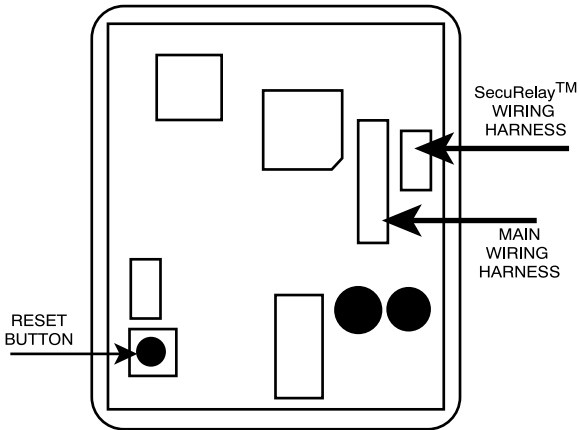

FIGURE 1
When received, the correct system code may already be set. Should it become necessary to reset the system code, remove the unit from the wall to gain access to the reset button (see figure 1). Momentarily depress the reset button. The LED indicator will flash red and green alternately (If at power up, the LED is already flashing red/green, it is not necessary to remove the unit from the wall and press the reset button). While the LED indicator is flashing, place either a programming card or an access card with the proper system code onto the touch plate and remove it. The **ENTRACOMP® 26SA** will “remember” the system code and retain it until reprogrammed. If the reset button is pushed, but no card is placed on the **TOUCH CARD®** reader plate before the LED indicator times out, the system code will be unchanged. **Wait for the LED indicator to time out before programming the unit.**
The **ENTRACOMP® 26SA** is provided with a connector and 10 wire leads (see figure 1). Using appropriate wire nuts or crimp on connectors, wire the unit as per the table below. Be sure unused wires are insulated to avoid shorting. In addition to the wiring below, **AN EARTH GROUND IS REQUIRED.** It must be connected to the green screw on the mounting bracket
**SecuRelay™.** The SecuRelay™ from Secura Key may be purchased separately for use with ENTRACOMP® 26SA units which have firmware version 4.0 or later. SecuRelay™ allows the lock/gate control circuit to be remotely located so that attacking the 26SA will not open the passageway. SecuRelay™ comes with a wiring harness which plugs directly into the 3-pin header on the 26SA circuit board (see figure 1)